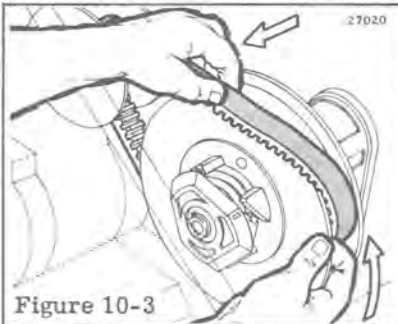

Figure 10-3
- d. Work belt over top of sheave, Figure 10-3.